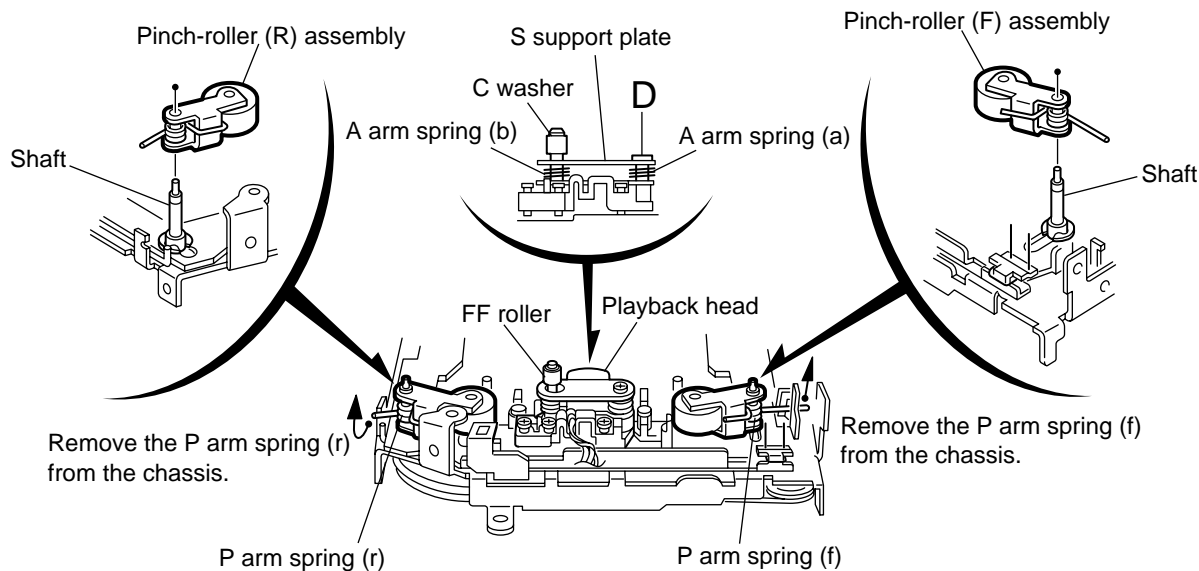

Fig.2
■ Removing the playback head (See Fig.2)
■ Removing the pinch-roller (R) and (F) assembly (See Fig.2)
1. Remove the **P** arm spring (f) in the pinch-roller (F) assembly from the chassis.
2. Remove the **P** arm spring (r) in the pinch-roller (R) assembly from the chassis.
3. Draw out the pinch roller (F) and (R) assembly from the shaft.